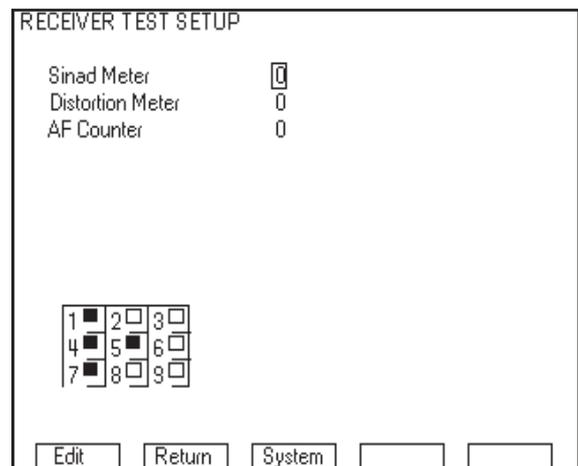
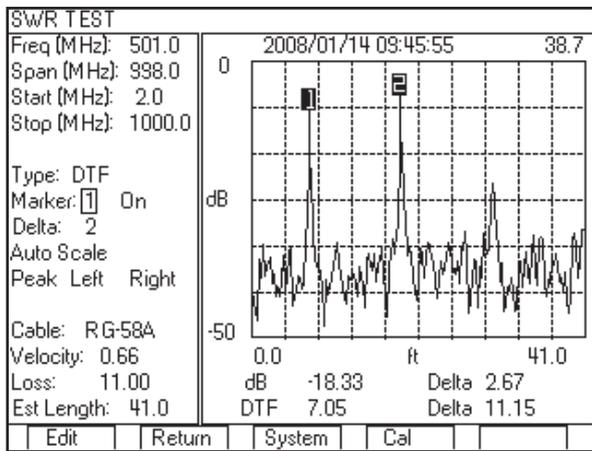

Figure 14 - RECEIVER TEST SETUP screen
Figure 20 - DTF showing cable fault and end of cable
For this testing, we are going to use the 3500 Receiver Test screen (Figure 14). To get to this screen from the Transmitter Test screen, press the Return softkey and then select "1 - RECEIVER TEST". If you are in the System menu, you should press "4-BENCHTOP", and then "1 - RECEIVER TEST".
1. Press the Setup softkey and the screen shown in Figure 14 appears.
The distance to fault is the first measurement that we will make, since if there is a break in the cable, there is not much point in measuring the VSWR or return loss of the antenna. If you know the length of the cable that connects the radio to the antenna then you will be able to tell from this measurement if there is a break in the cable. If you don't know the length of the cable then this measurement will provide you either with the length of the cable or the distance to fault, since a break in the cable will look the same as the end of the cable. If the fault in the cable is not a hard break, but simply a problem with a connector or some kind of flaw, then the distance to fault measurement will show both the fault and the end of the cable. Figure 14 shows a graph of distance to fault which shows both a fault and the end of the cable. This graph is a plot of the return loss of the cable versus distance. Since a fault in the cable creates a higher return loss, any spike in the graph indicates that a fault is located at that distance. In Figure 20, marker 1 is located at a fault in the cable and marker 2 is the end of the cable. The DTF field below the graph indicates the location of the active marker, marker 1, with a location of 7.05 ft.